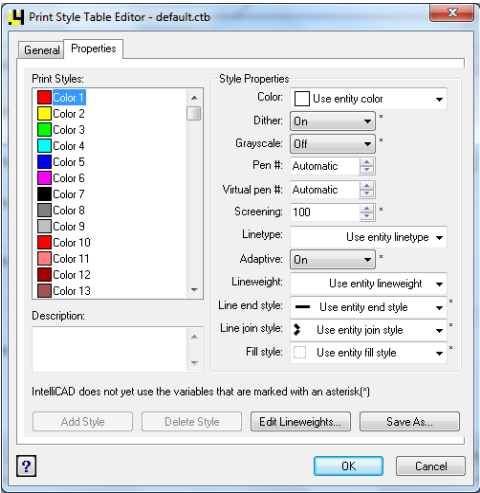

Fig. 334 – Print Style Table... dialog box
- in a newly opened dialog called **Print Style Table Editor – default.ctb** (Fig. 334), exactly in the **Print styles** section, click on the first **Color** position, press **<Shift>** and then press the last position (not releasing the **<Shift>** button);